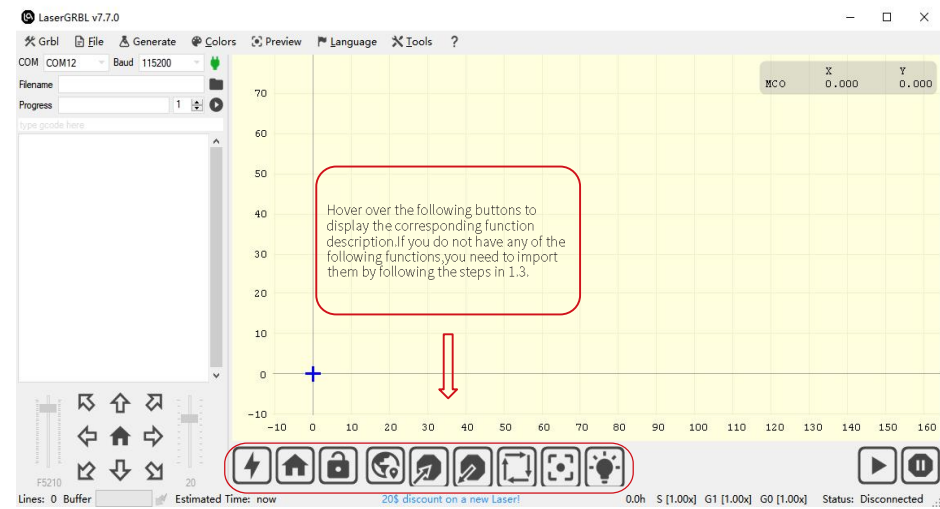

Figure 2 Interface of LaserGRBL
As shown in Figure 2, assemble the laser module onto the machine, turn your hand to tighten the screws for fixation, and then insert the laser line to be ready for use.
- The installed software is shown as the figure 2.